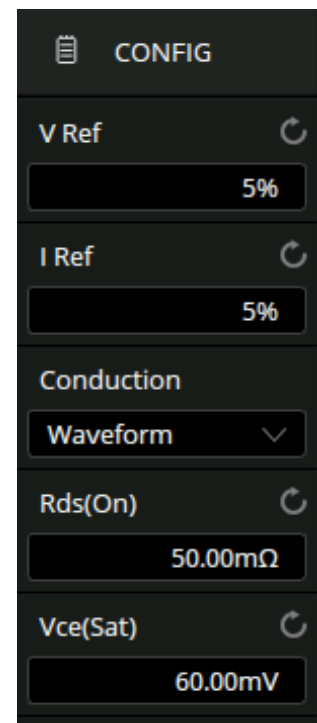

Figure 19.10 Switching Loss Config Menu
2. Touch **Config** to display the switching loss configuration menu shown in figure 19.10.